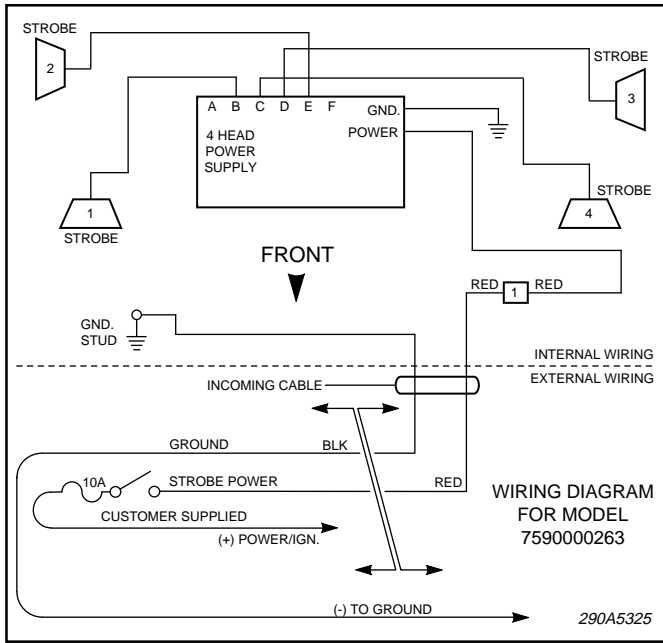

Figure 1.
2. For proper light operation, the control cable must be properly terminated inside the user-supplied control head. Using the wiring diagram (figure 1) as a guide, make the appropriate electrical connections shown in Table 1. Ensure that an adequate fuse is installed as shown in the appropriate figure.